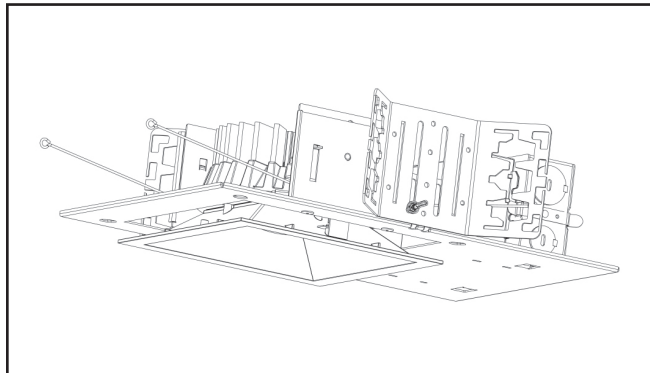

Figure 6
9. Install the LED engine and trim assembly by inserting the torsion springs into the spring receivers located inside the housing (Figure 6).